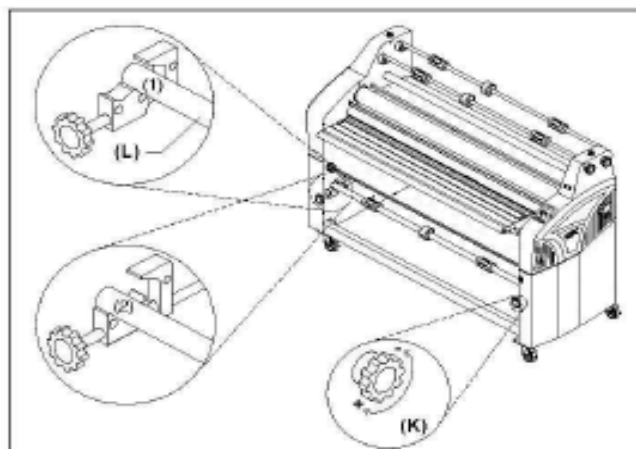

Fig. 17
K. LOWER UNWIND TENSION KNOBS: (Figure 17) Left and right adjustable brake tensions. Applies brake tension to the lower unwind shaft. Turning the knob clockwise increases tension and counterclockwise decreases brake tension.
L. LOWER UNWIND SHAFT: (Figure 17) The lower unwind shaft holds the lower film supply on the machine.